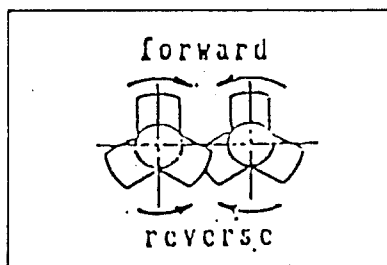

fig. 2
- To test: Turn pug mill switch to "1". Screws should turn forward. If they turn in reverse, reconnect two of three wires (not ground/earth) (fig. 2).